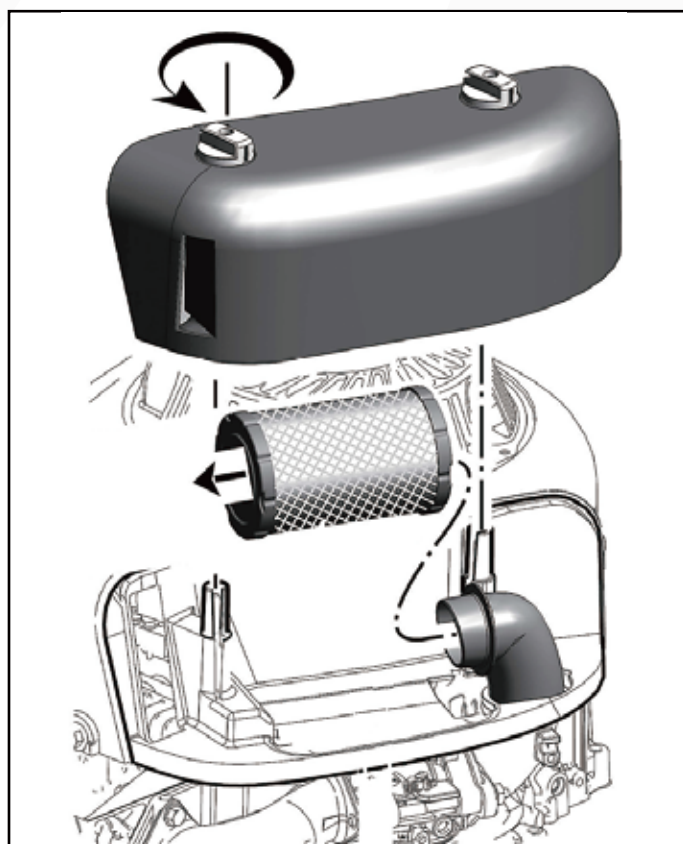

Fig. 34
1. Loosen the fasteners and remove the cover. (Fig. 34)